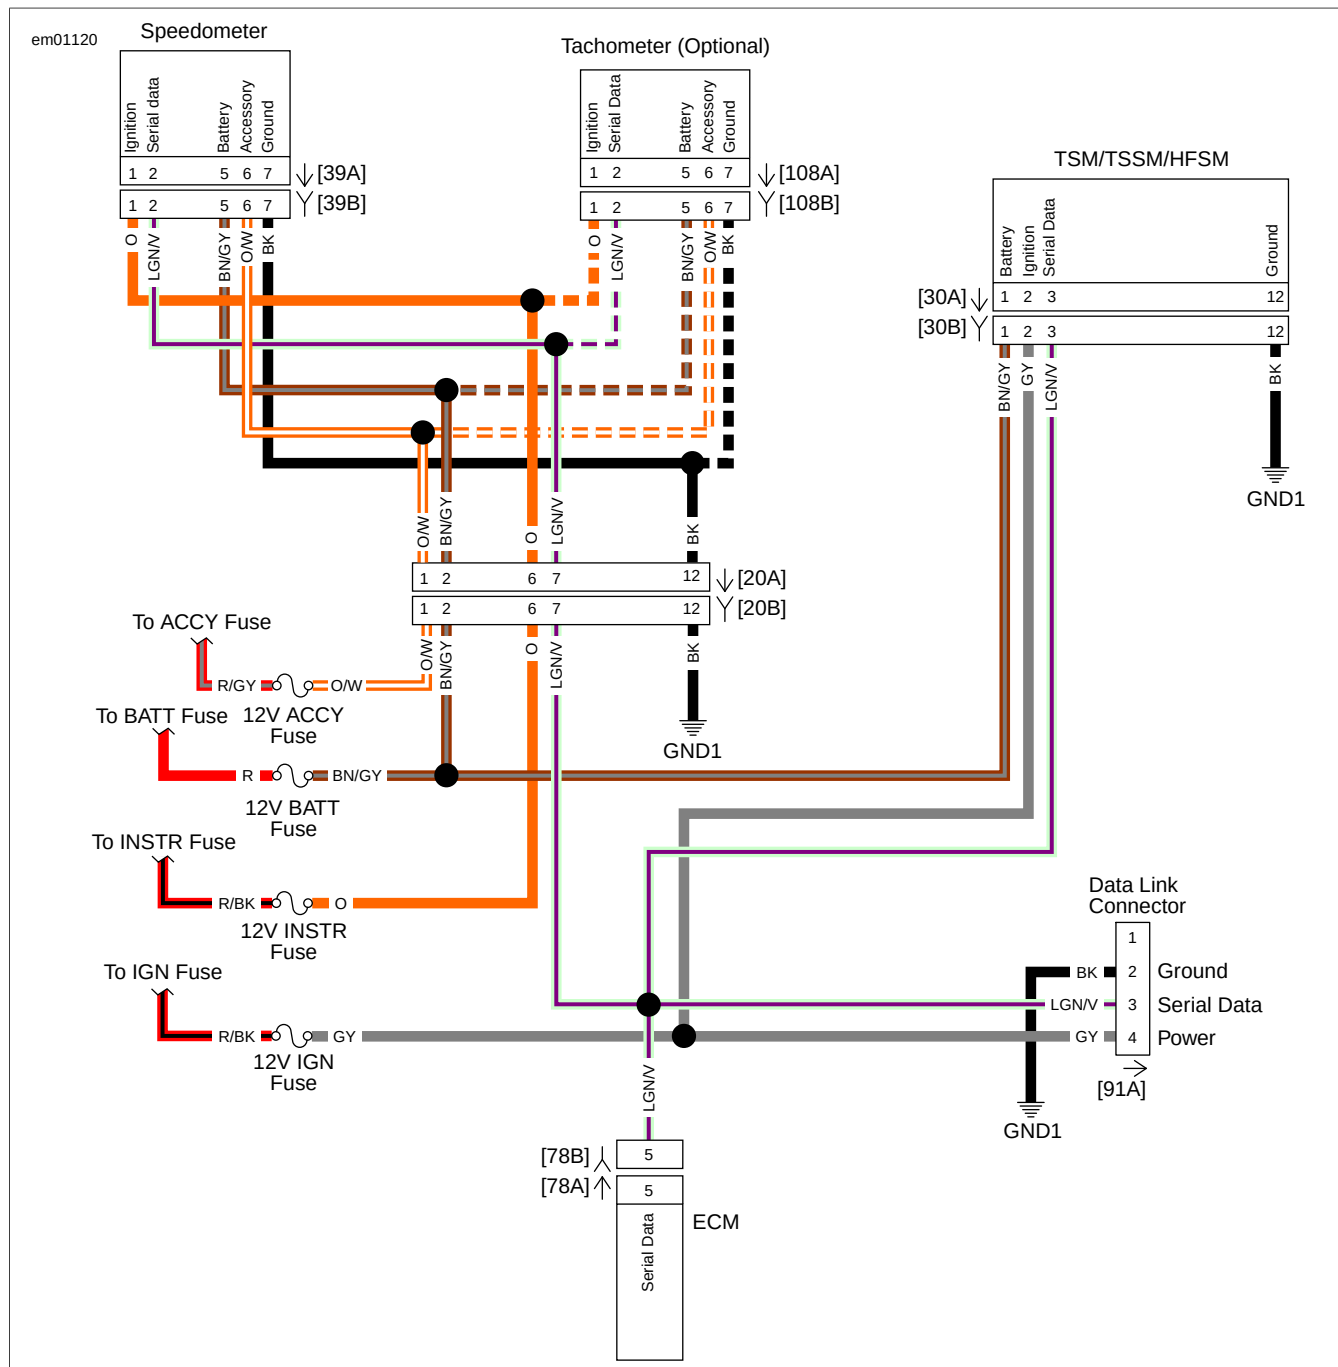

Figure 2-4. Serial Data Circuit (XL)
See Figure 2-4. Constant power is supplied to the speedometer through terminal 5 of connector [39] on XL, and the tachometer through terminal 5 of connector [108] on XR. The odometer turns on when power is applied to terminal 1. The speedometer on XL, and tachometer on XR, proceeds through an initialization sequence every time power is removed and re-applied to terminal 6. See Figure 2-1. The visible part of this sequence is the check engine lamp, security lamp, backlighting and odo-
- See Figure 2-4. If Odometer reads "BUS Er" while ignition switch is turned to ON (engine stop switch at RUN with